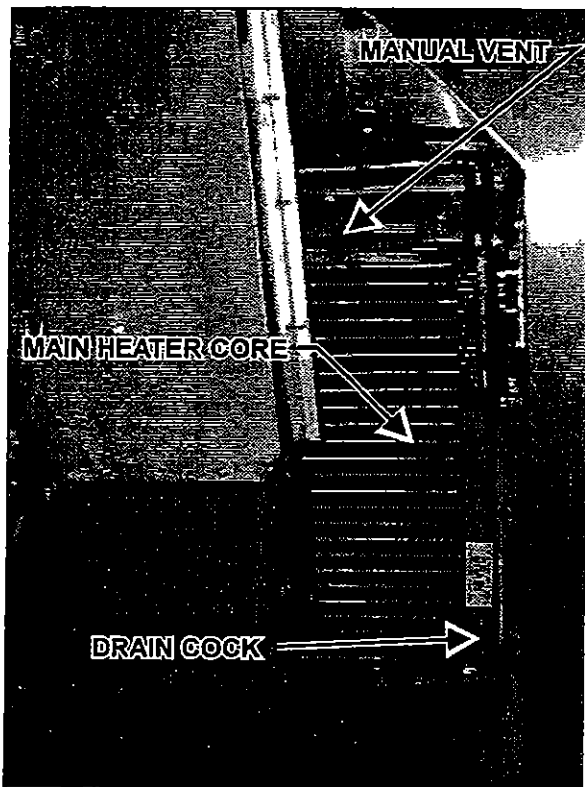

Figure 32: HVAC Compartment
4. Open drain cock in bottom of heater core, then open manual vent located on top of heater core (Fig. 32) in order to allow air to enter while draining.